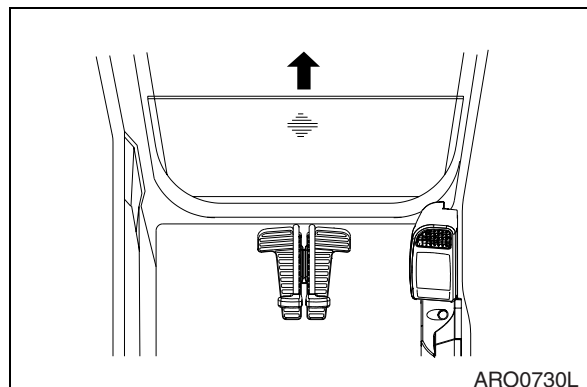

Figure 98
1. After stowing the front upper window in the cab roof, remove bottom window from cab in direction of the arrow (Figure 98).